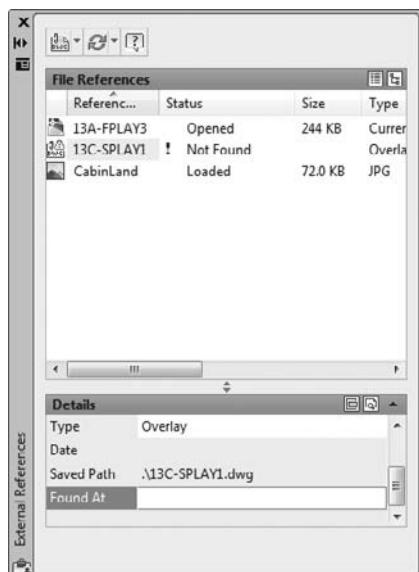

FIGURE 13.35 The missing xref is identified in the External References palette.
- In the File References area where xrefs are listed, the path appears for each xref under the heading Saved Path (see Figure 13.35). The dot backslash (.) preceding the filename indicates that the current file path is relative and in the same folder as the current drawing. You can slide the scroll bar to the right—or widen the palette—to see the full path. Notice also that the Status column for this xref reads “Not Found.”